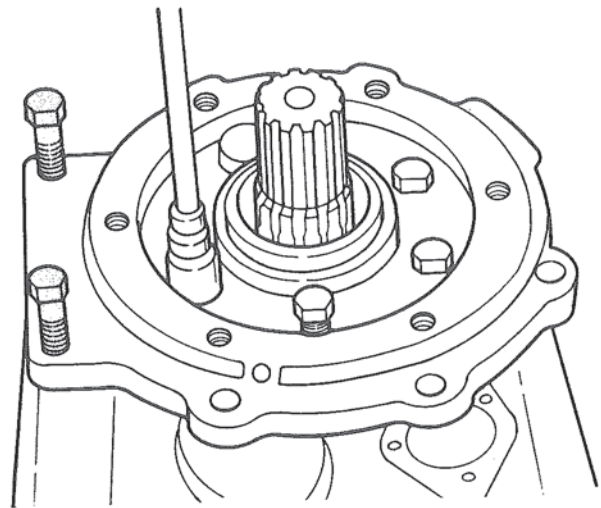

Figure 20. Installing Reduction Unit Adapter.
2. Check for obstructions and align oil hole with oil hole in gasket as the reduction unit adapter is placed squarely over the outside diameter of piloting bearing. Figure 20. Insure alignment of the bolt holes by assembling in place two (2) 7/16 - 14 x 1-3/4 hex head bolts. Install and tighten evenly to the specified torque the six (6) 7/16 - 14 x 1 lock bolts and lockwashers. Remove the two (2) 7/16 - 14 x 1-3/4 hex head bolts. Figure 20.